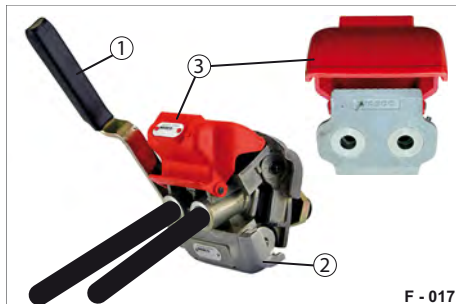

Fig. 20 Duo-Matic, uncoupled
- ▶ Pull the handle (Fig. 20/1) of the Duo-Matic quick-release coupling socket upwards and pull out the Duo-Matic coupling head (Fig. 20/3) from under the protective cover.